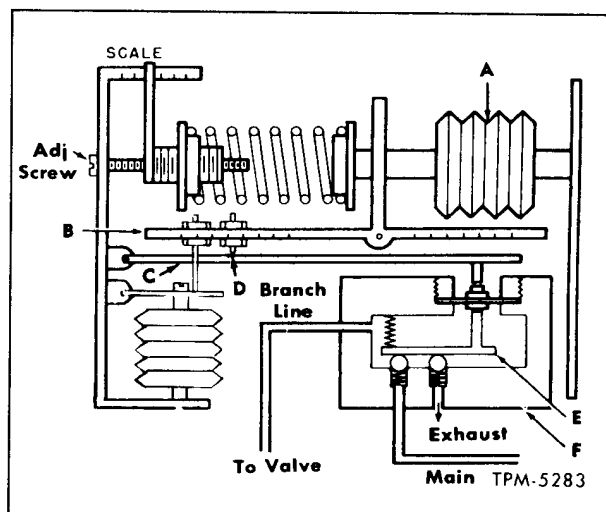
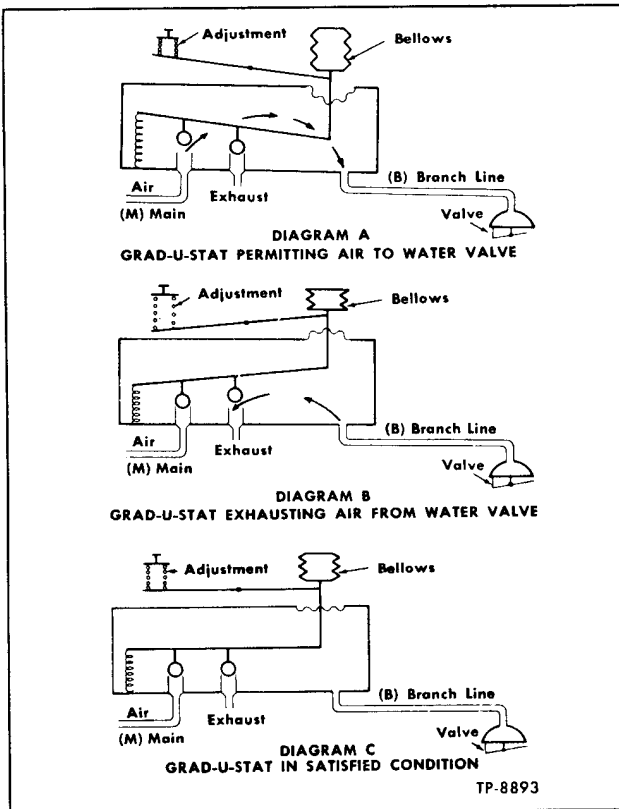

Figure 36—Grad-U-Stat Diagram (Standard Controls)
Figure 37—Grad-U-Stat Operational Diagram
NOTE: Key letters in text refer to figure 36, however, throughout explanation of Grad-U-Stat Operation, reference is made to simplified diagrams shown in figure 37 which illustrate reaction of Grad-U-Stat under varied temperature conditions.
mitted to lever (E) in air control chamber (F) of unit, increasing air pressure delivered to water modulation valve as shown in diagram A, figure 37. This increased air pressure at the modulation valve causes the valve to close, reducing the flow of water through the underfloor heater core.
When temperature in coach lowers, the bellows (A) contract and relieves pressure exerted in air control valve lever (E). Air valve then exhausts air pressure from water modulation valve, increasing the flow of water through the underfloor heater core as shown in diagram B, figure 37. The air pressure delivery by the Grad-U-Stat varies in proportion to the inside coach temperature act-
ing upon the bellows; thus, flow of water through underfloor heater core is graduated as required in accordance with inside coach temperature. Diagram "C" figure 37, shows status of Grad-U-Stat when temperature in coach is approximately equal to temperature setting on Grad-U-Stat.